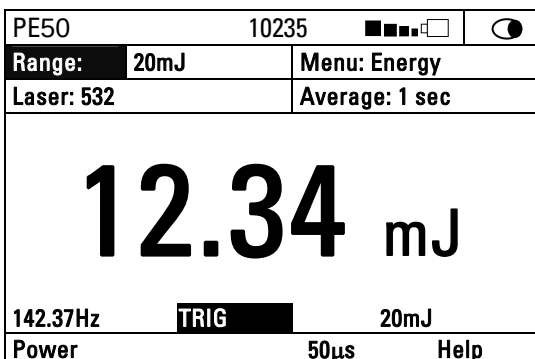

Figure 6.1
1. Ordinarily, when the instrument is switched on, it is in the main energy measurement mode. This can be verified by the units of mJ, μ J etc. and the legend "energy" in the upper right corner of the display. (See Figure 6.1). If it is in power measurement mode with units of mW, W etc., then press "energy".
Besides the usual range, laser, average information, the Nova II also displays the frequency of the laser as shown in Figure 6.1.